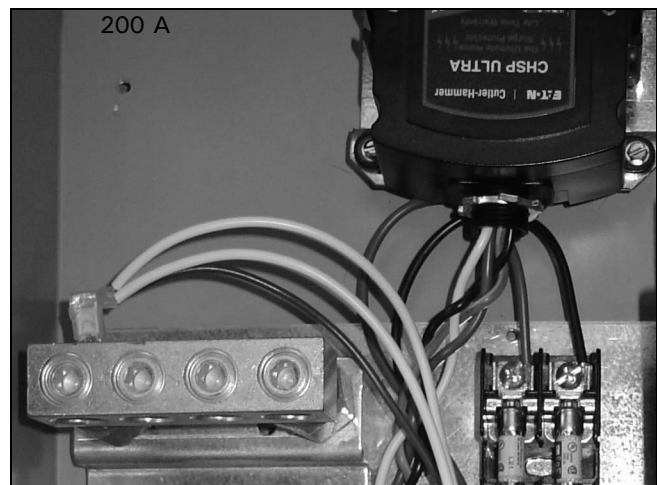

Figure 86. TVSS White Wire Connected to the 100 A and 200 A Neutral Bars.
Step 10: On 100 A SE ATs, secure the white TVSS wire to a receptacle on the neutral bar using a blade screwdriver (see Figure 86).
Note: On 200 A SE ATs, the white TVSS wire must be connected to the male flag receptacle on the neutral bar. Remove the female flag connector from the neutral bar. Cut the female flag connector off of the white wire from the main wiring harness and the red wire from the optional load shed if installed. Strip 0.25 in. (6.35 mm) of insulation from the white TVSS wire, the white wire from the main wiring harness, and red wire from the optional load shed if installed. Crimp the supplied female flag connector on the wires so they can be connected to the male flag terminal on the neutral bar (see Figure 86).